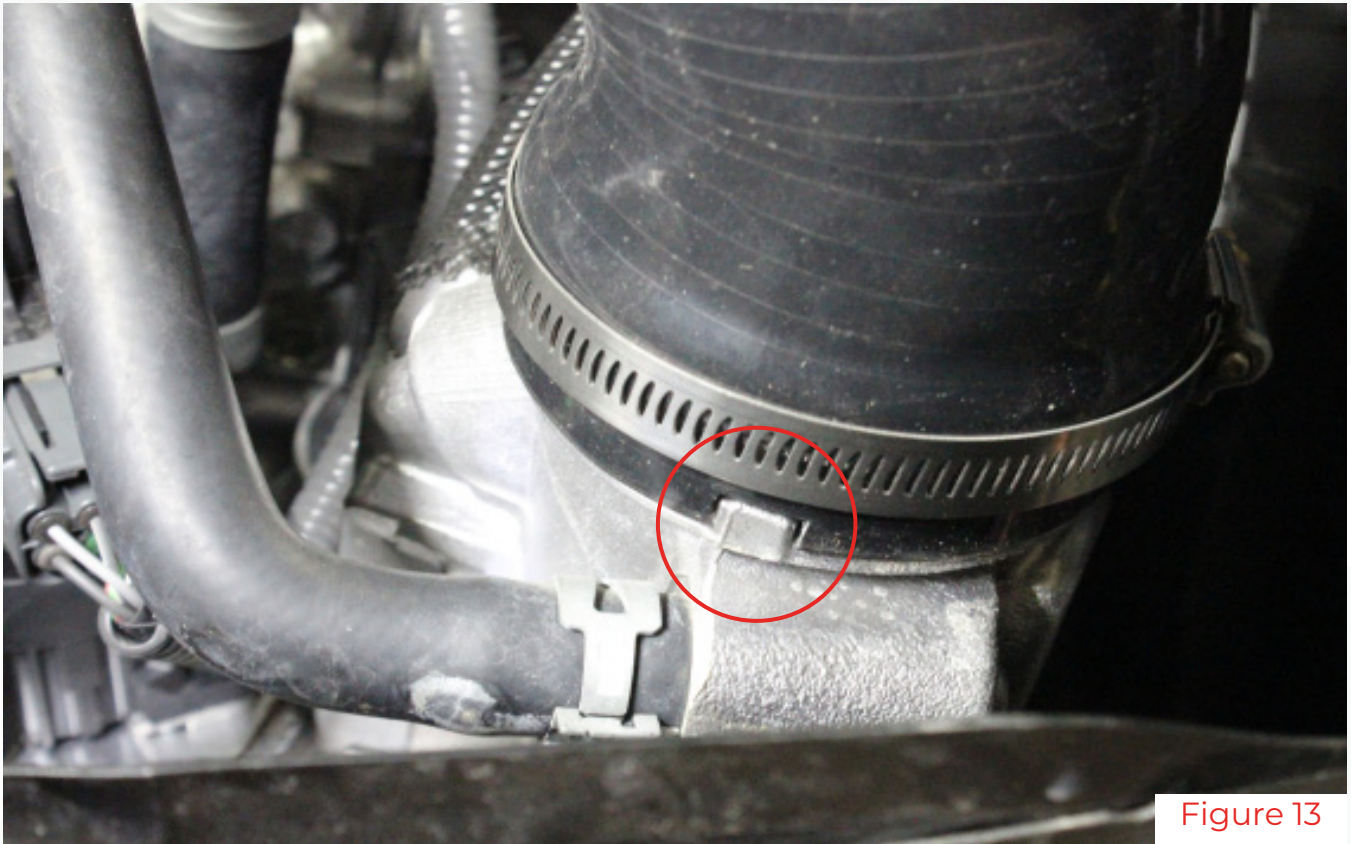

Figure 13
11. Install the turbo inlet silicone onto the turbo inlet. Line up the notch on the silicone with the notch on the turbo. Tighten the band clamp on the inlet side (Figure 13).